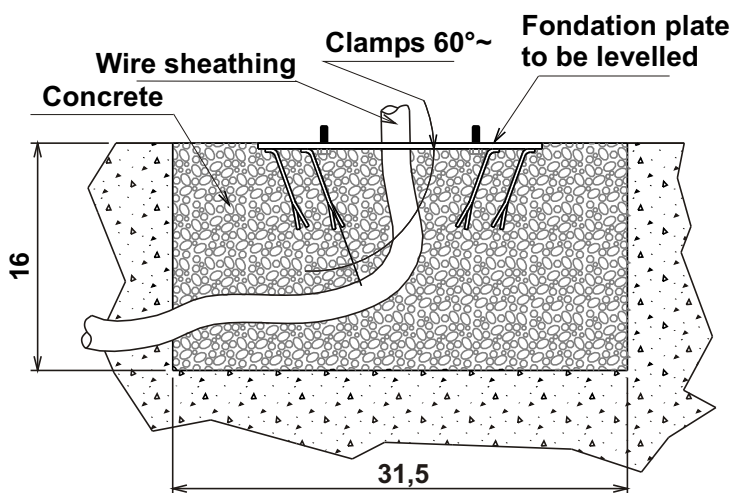

Fig. 6
- Widen the foundation plate clamps at 60° (Fig. 6)
- Fill the hole with R425 concrete and place the foundation plate as in Fig. 6.